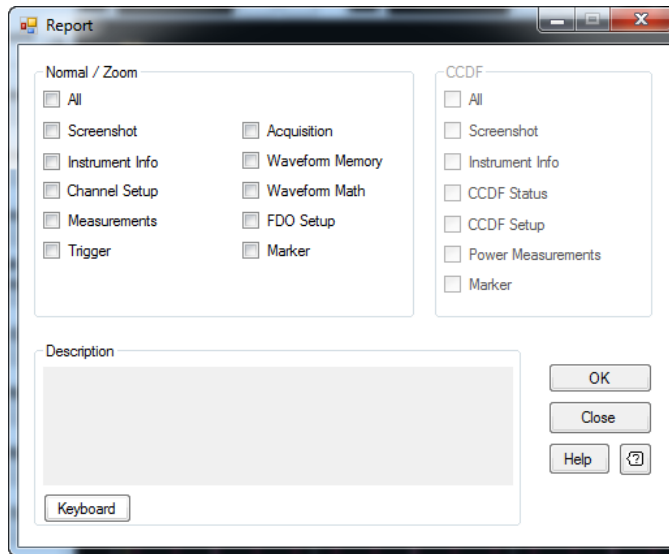

Figure 2-144 Report dialog
- 2 The Report dialog is displayed as shown in Figure 2-144.